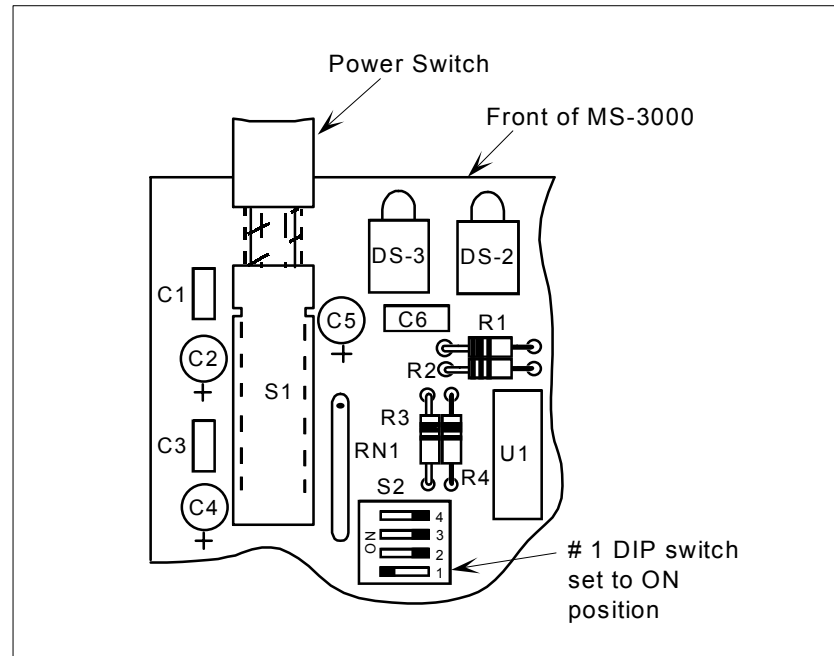

Figure A-5 DIP Switch (in last MS-2000/MS-3000)
**With MS-3000 Decoders:** Terminal resistors are built into the MS-3000 decoders and are activated by setting an internal DIP switch (no. 1 DIP switch S2) to ON as shown in figure A-5.